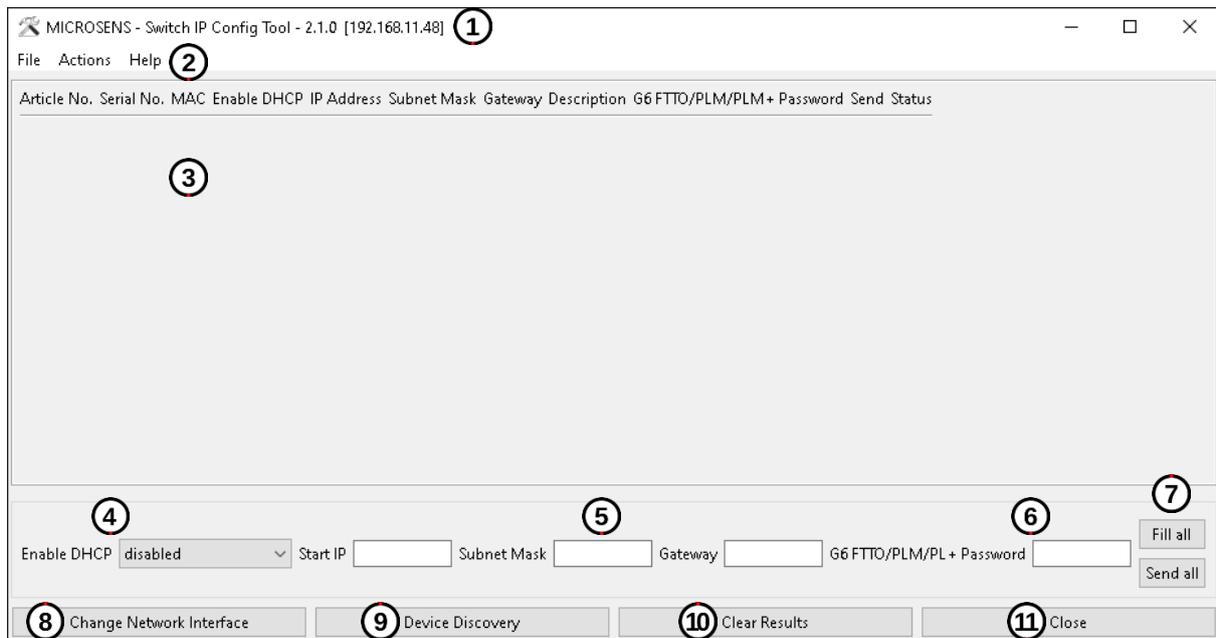

Fig. 5: Start Screen
The menu bar (see Fig. 5, ②) contains the following entries:
Close the application (identical to Fig. 5, ⑪)
Select another IP interface from the drop-down list if necessary (identical to Fig. 5, ⑧)
Search for all MICROSENS devices in the connected corporate network (identical to Fig. 5, ⑨)
Clear the information area list from previously found devices (identical to Fig. 5, ⑩)
After start up the information pane (Fig. 5, ③) is empty. Providing that the correct IP interface is selected a click on the button "Device Discovery" (Fig. 5, ⑨) will start the network scanning process.